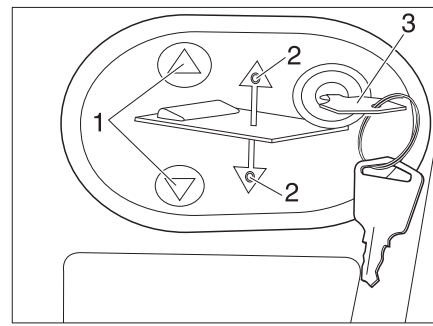

Fig. 146 Operating panel for the electrical pull-down bed
- Insert the key (Fig. 146,3) into the operating panel.
- Press the  or  (Fig. 146,1) button and keep it pressed. The respective LED (Fig. 146,2) lights up and the pull-down bed moves down or up.
- When the desired position has been reached, release the  or  (Fig. 146,1) button again. The respective LED (Fig. 146,2) extinguishes.
- Remove the key (Fig. 146,3).